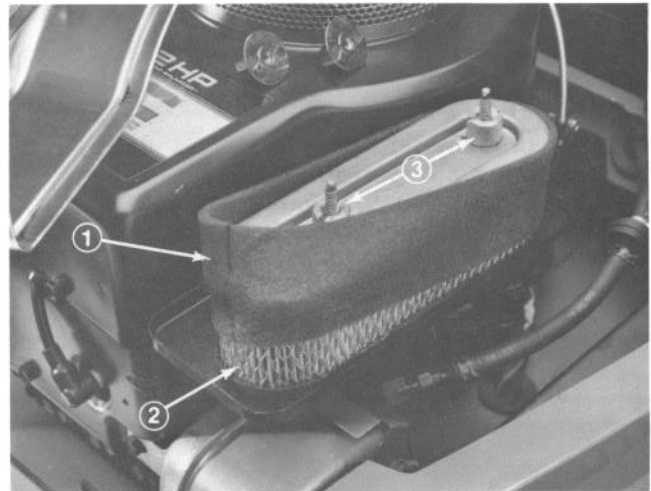

Figure 18
2. Remove foam pre-cleaner by sliding it off the cartridge (Fig. 18).
3. Remove (2) nuts from top of cartridge (Fig. 18).